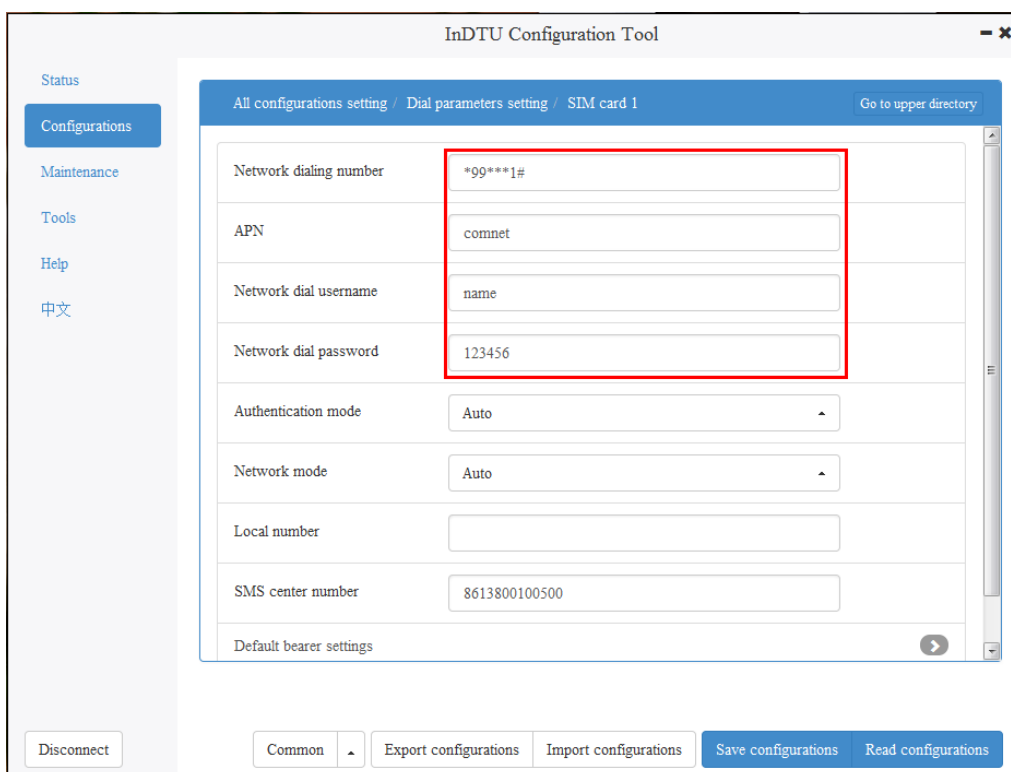

Figure 4-4-2 Modbus-Net-Bridge setting 2
Step 2: Enter the APN provided by the SIM card operator and the network dial username/password, as shown in Figure 4-4-2.